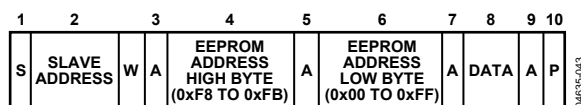

Figure 37. Single Byte Write to the EEPROM
- To write a single byte of data to the EEPROM. In this case, the command byte is the high byte of EEPROM Address 0xF8 to EEPROM Address 0xFB. The first data byte is the low byte of the EEPROM address, and the second data byte is the actual data, as shown in Figure 37.